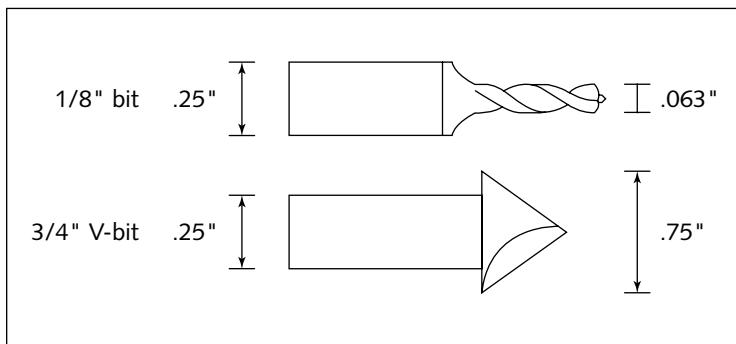

FIGURE 5-2: Examples of different router bit sizes.
The router motor has a collet that holds the routing bits. These are very much like regular drill bits, but, in order to fit in the collet, they all have the same size shank regardless of the actual bit size, as seen in Figure 5-2.
- **V-bit (various sizes).** Shown earlier in Figure 5-2. It's got a standard shank, but then a V-shaped flat portion on the business end. The larger V-bits usually make a 45-degree cut; there are also smaller versions that are more pointed (also called engraving bits).